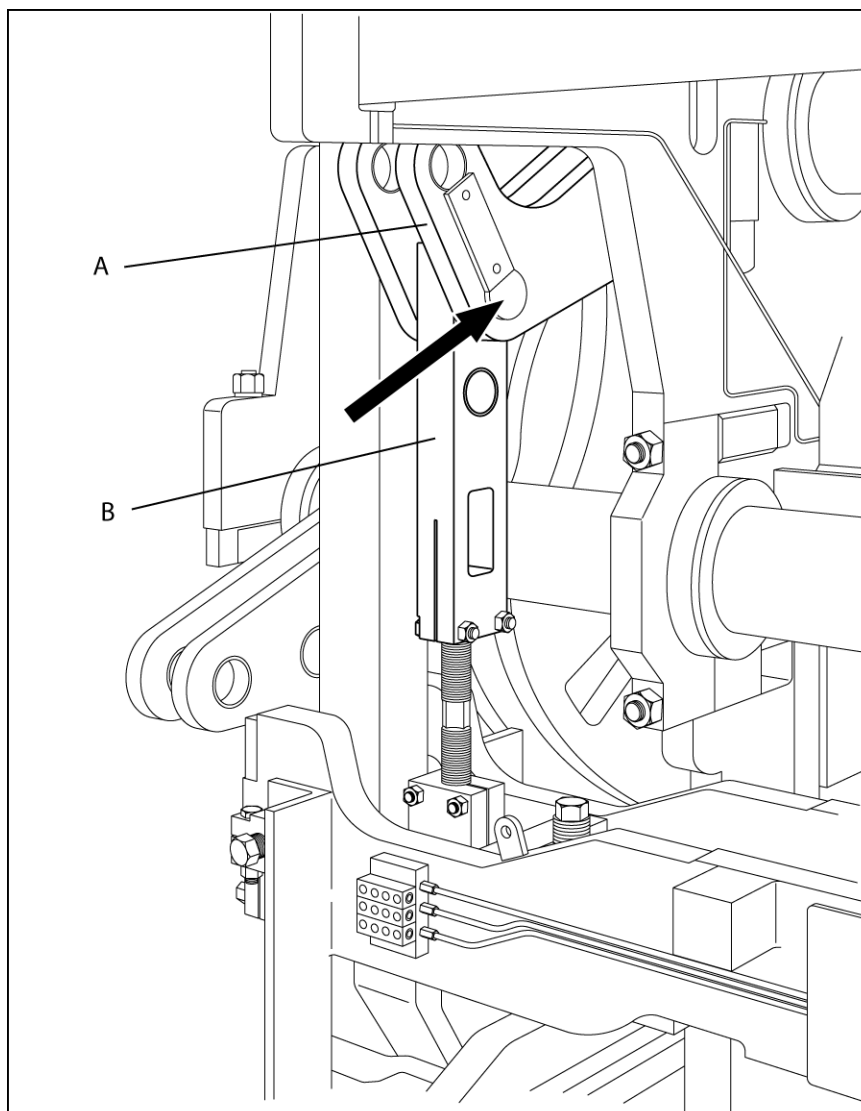

Figure 4.2 STRIPPER HEAD SHAFT AND LINKS
- b. Stripper head shaft (A) - position pins in inside holes (short stroke) (see figure 4.2).
- c. Stripper head links (B) - position pins in top holes (see figure 4.2). Adjust links to obtain approximately **7 3/4" [197mm]** between link ends.